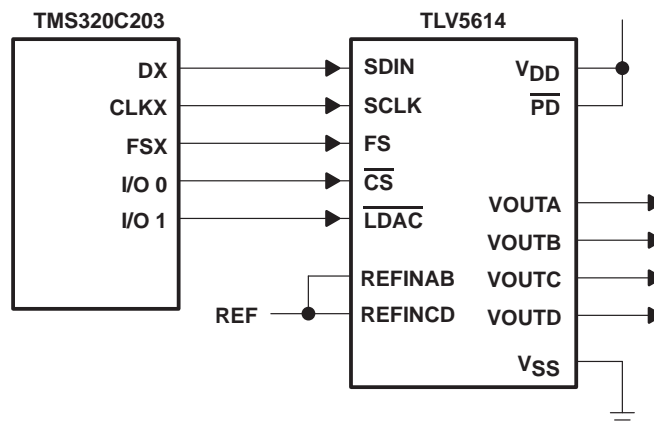

Figure 18. TLV5614 Interfaced With TMS320C203
Figure 18 shows an example of how to connect the TLV5614 to a TMS320C203 DSP. The serial port is configured in burst mode, with FSX generated by the TMS320C203 to provide the frame synchronization (FS) input to the TLV5614. Data is transmitted on the DX line, with the serial clock input on the CLKX line. The general-purpose input/output port bits, IO0 and IO1, are used to generate the chip select (\overline{CS}) and DAC latch update (\overline{LDAC}) inputs to the TLV5614. The active-low power down (\overline{PD}) is pulled high all the time to ensure the DACs are enabled.